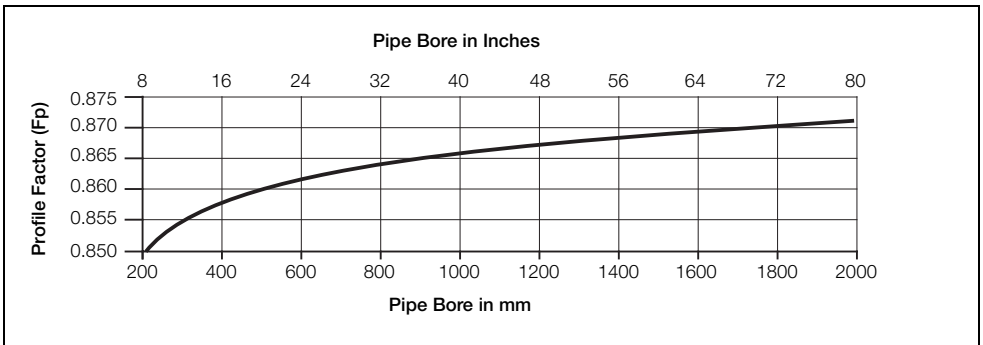

Fig. 5.1 Profile Factor v Flow Velocity for Pipe Sizes 200 to 2000 mm (8 to 80 in.)
2. Determine the profile factor F_p from Fig. 5.1.
F_p = 0.861 (derived from Fig. 5.1)